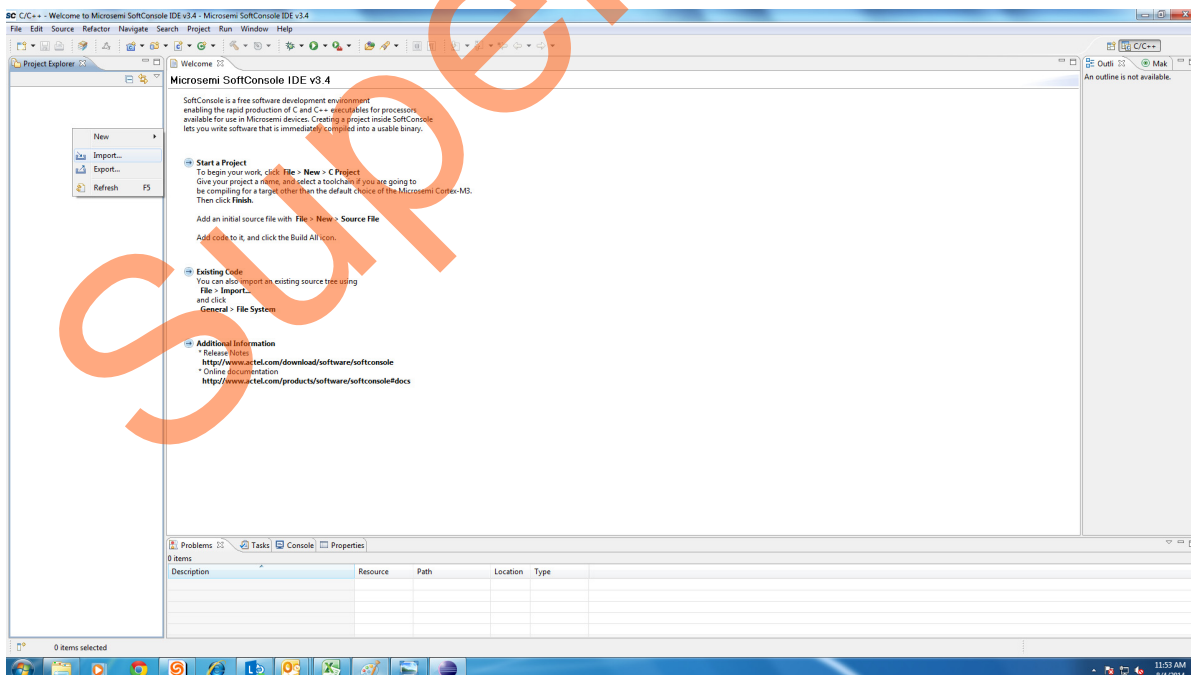

Figure 23 • Importing Projects
2. Right-click on **Project Explorer** window and choose **Import** option as shown in Figure 23.